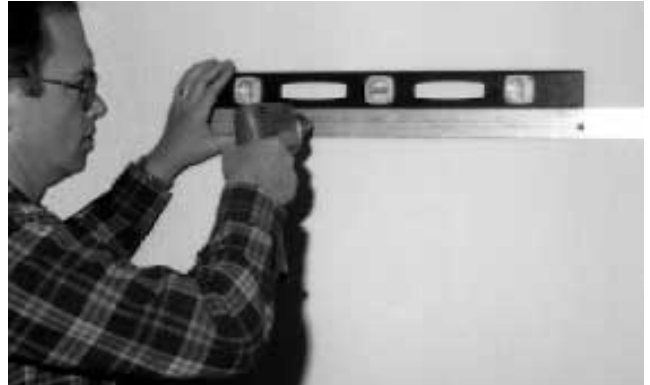

FIGURE 7
19. Level the anchor strip (see Figure 7).
20. Drill a 1/4 inch (6.4 mm) diameter hole through the anchor strip, wall, stud or stiffener, where the second toggle bolt anchor will be installed, at the opposite end of the anchor strip from the fastener installed in step 18 (see Figure 7).